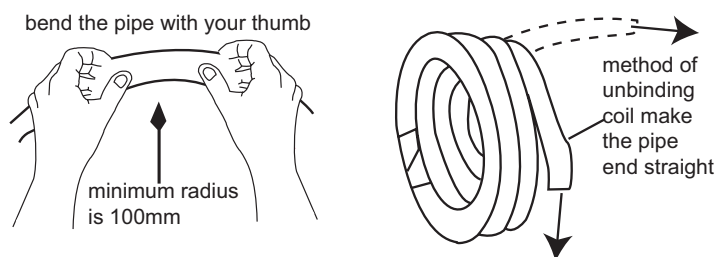

Fig.3
4. Do not bend the flexible pipe for more than three times. (As show in Fig.3)